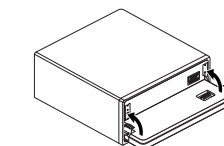

Fig. 13
**3. Flip the holders into upright positions. (Fig. 13)**